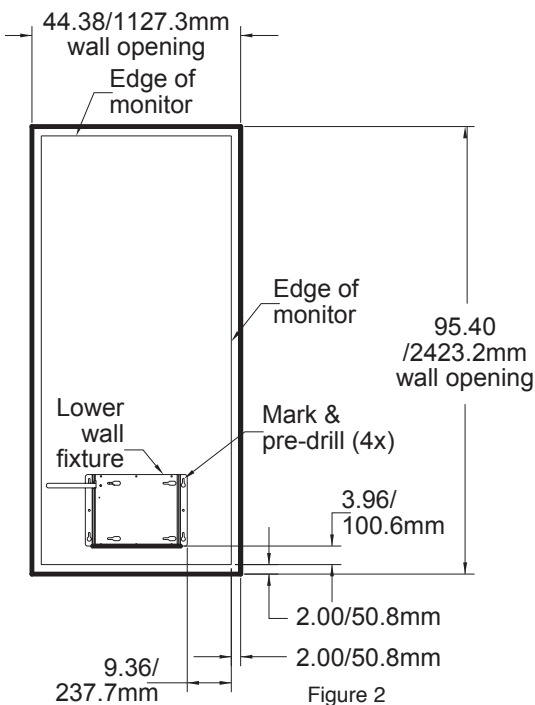

Figure 2
Step 3: Scribe a horizontal line on the wall showing the exact location of where the bottom edge of the lower monitor will be. Measure up 3.96" (100.6mm) from that line and scribe another horizontal line showing where the bottom of the lower fixture wall mount will be (*Figure 2*). Scribe a vertical line showing where the right side of the lower monitor will be. Measure to the left and scribe another vertical line 9.36" (237.7mm) from the monitor's right vertical line to locate the right edge of the lower wall fixture (*Figure 2*).
Insert the locking bracket with spring into the rectangular slot of the wall bracket with the open hook facing up. Align the hole of the locking arm with the hole on the wall bracket. Place a nylon/friction washer in between the locking arm and the wall bracket then secure with the provided M4x16mm long screw and M4 nylock nut. Make sure the head of the screw is on the outer side of the wall bracket (**Figure 2**).